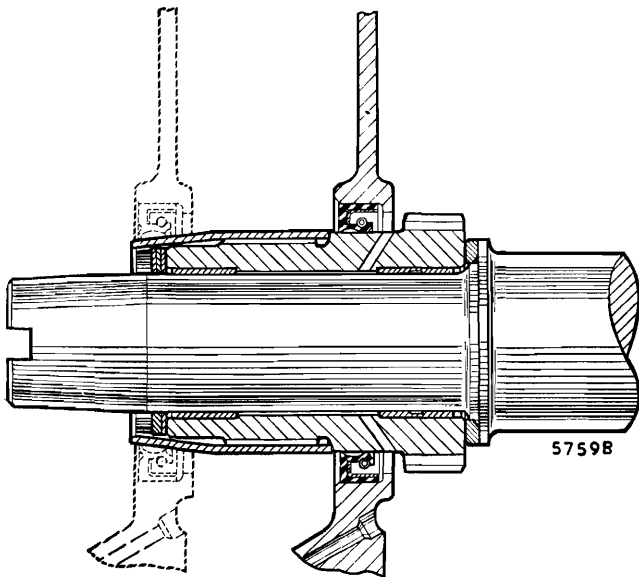

Fig. A.15
(4) When withdrawing the housing and to avoid damage to the oil seal use Service tool 18G 570, or 18G 1043 if a red silicon rubber oil seal is fitted (Fig. A.15).
(5) Extract the circlip and remove the primary gear.